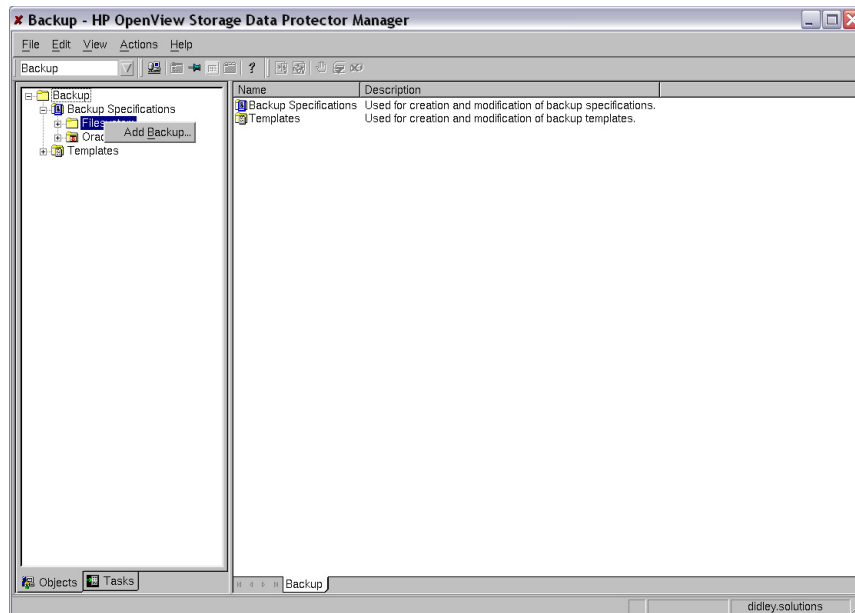

Figure 10: Adding a backup specification
- Right-click **Filesystem** in the GUI left panel under **Backup Specifications** and select **Add Backup** (see Figure 10).